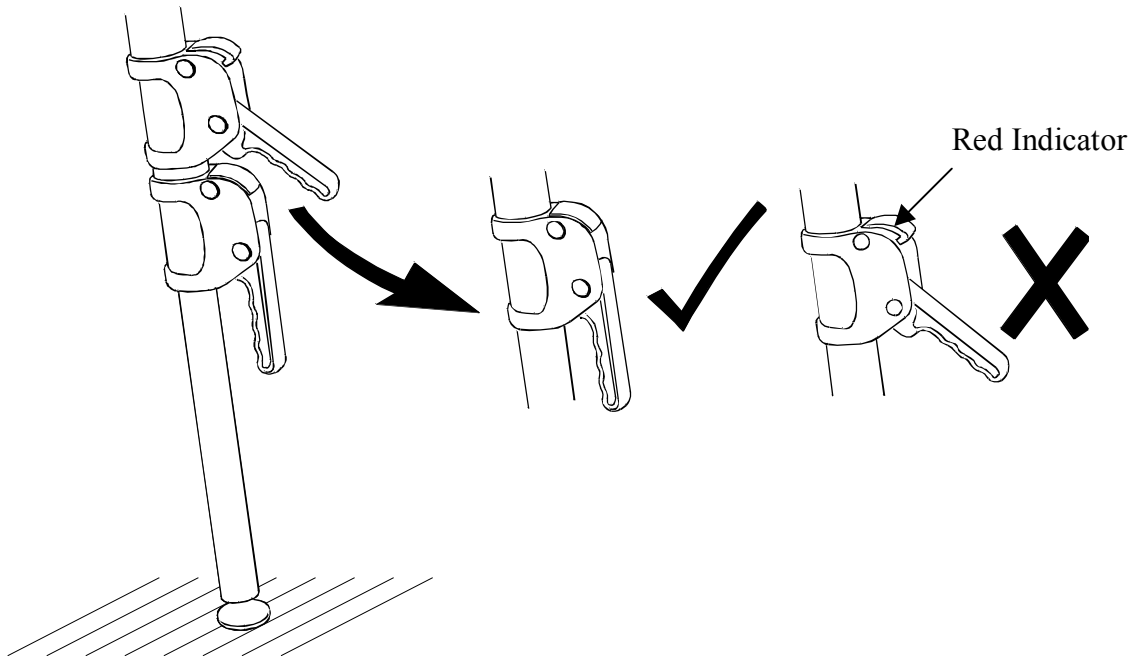

Fig 10
10. Push the blue handle down to the locked position (Fig 10).
- Confirm the leg latches are fully engaged.(Fig 10 & 11)
- Confirm the leg clamps are in the locked position (Fig 10 & 11).